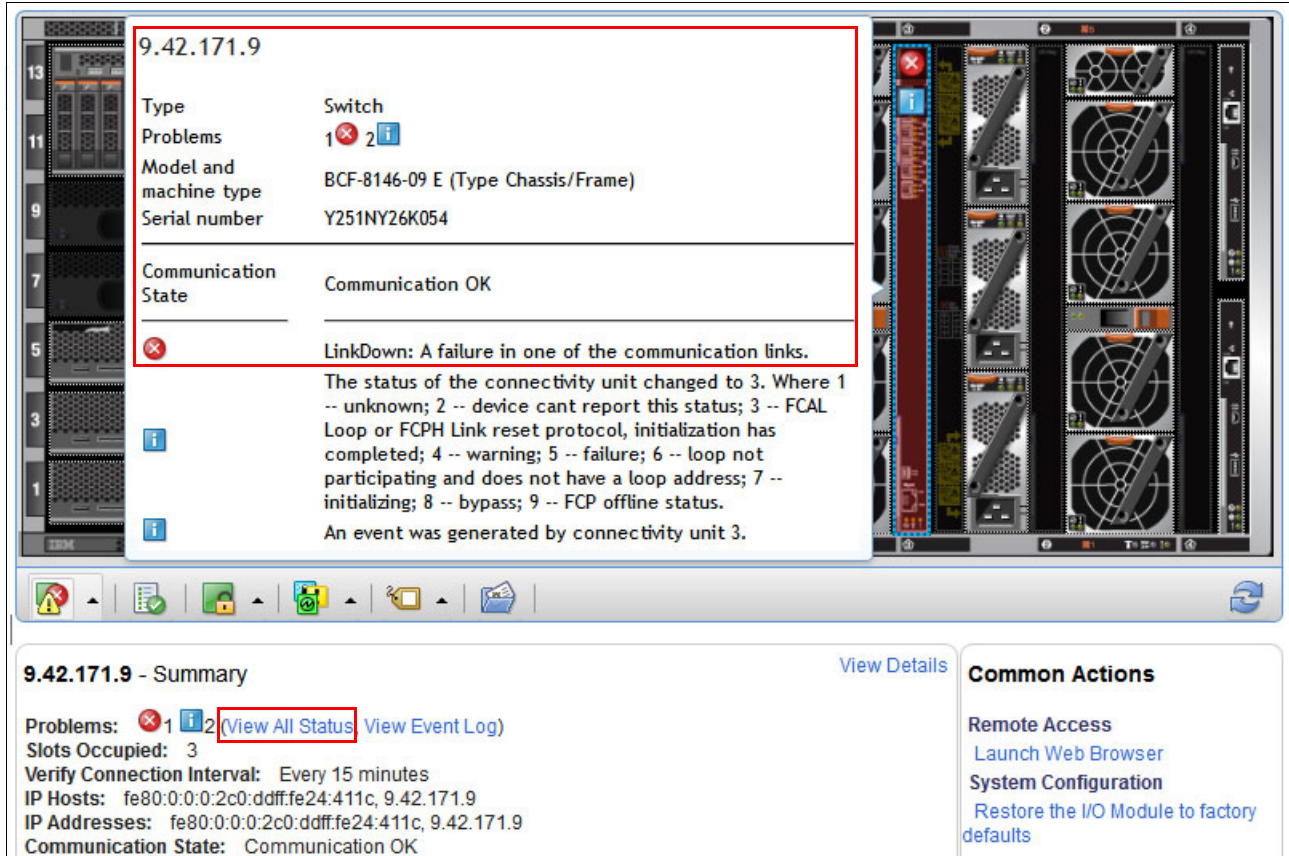

Figure 7-10 Caption with brief information about an I/O module in the Chassis Map
- Use the Chassis Map to quickly identify problematic components of your chassis. For illustration purposes, we simulated a link failure on the switch module, and the Chassis Map showed an error with one of the I/O modules. Move the mouse pointer over the I/O module to see information about the switch and its problems, as shown in Figure 7-10. Click **View All Status** to open the Active Status window.